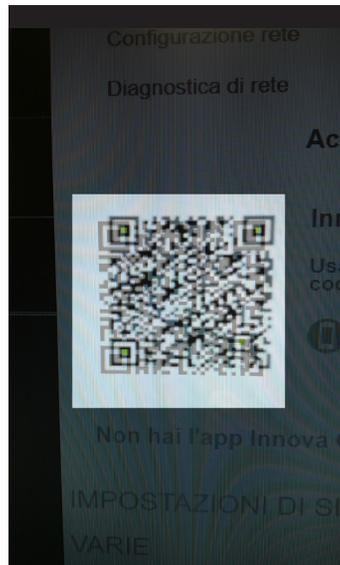

Figure 9.4
4. Scan with your smartphone the code (Figure 9.4)